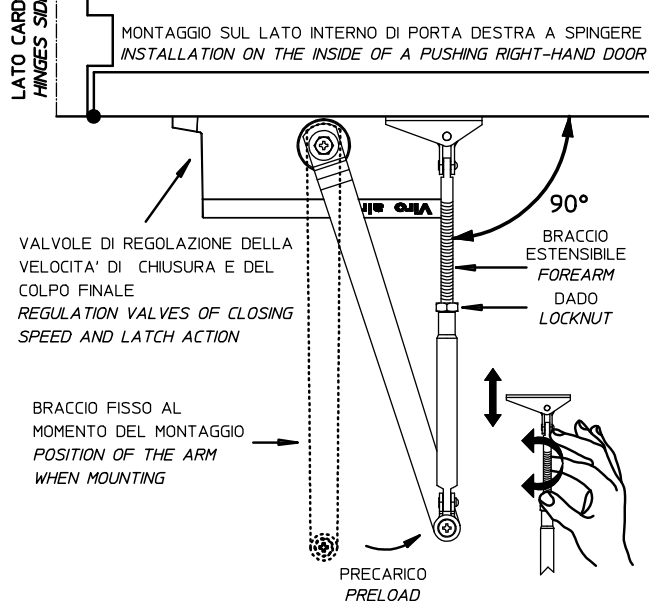

FIG. 2A
4. REGOLARE LA LUNGHEZZA DEL BRACCIO ESTENSIBILE IN MODO DA OTTENERE UN ANGOLO DI 90° COME INDICATO IN FIG.2A.
4. ADJUST THE LENGTH OF THE FOREARM IN ORDER TO PERFORM A 90° ANGLE AS SHOWN ON FIG.2A.